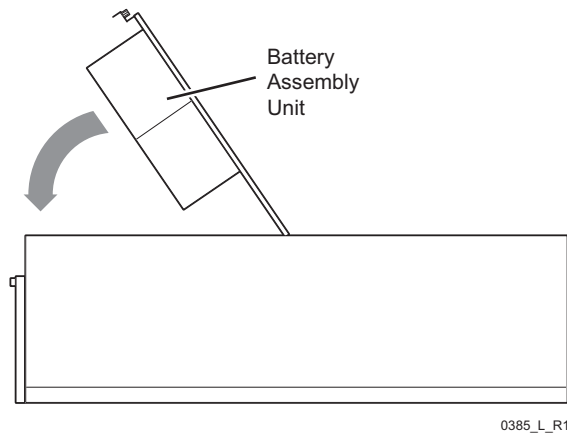

Figure 18-5. Flip the Battery Assembly Into the Power Supply.
- 4 Flip the backup battery assembly over and engage the rear locking tab as shown in Figure 18-5.